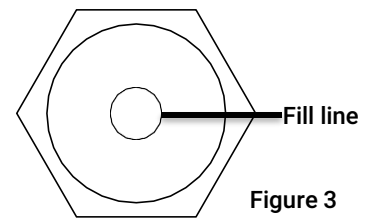

Figure 3
4. Start the unit and run for several minutes. Shut down the air compressor and recheck the oil level. If necessary, add more oil. (Figure 3)